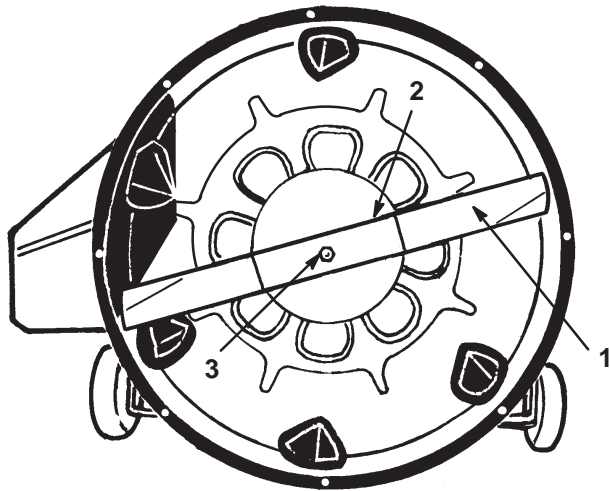

Figure 24
4. Grasp end of blade using a rag or thickly padded glove; then remove blade bolt, curved washer, blade stiffener and blade (Fig. 24).
7. In sequence, install blade, blade stiffener, curved washer and blade bolt (Fig. 24). The concave side of the curved washer must point toward the blade. Tighten blade bolt to 45–60 ft-lb (61–81 Nm)